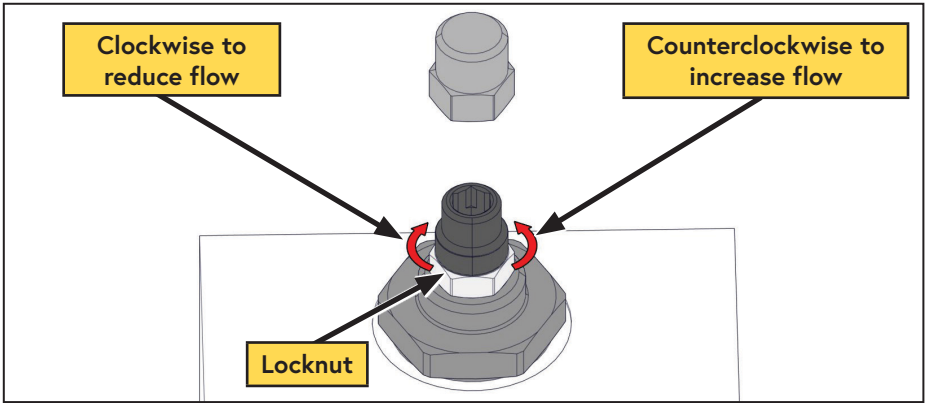

Figure 55 — Adjust priority valve
- ☐ Remove the cover cap (Figure 55).
- ☐ Loosen the adjustment locknut (Figure 55).
- ☐ Adjust the priority valve to the desired flow rate via the adjustment spigot (counterclockwise to increase flow, clockwise to decrease flow) (Figure 55).